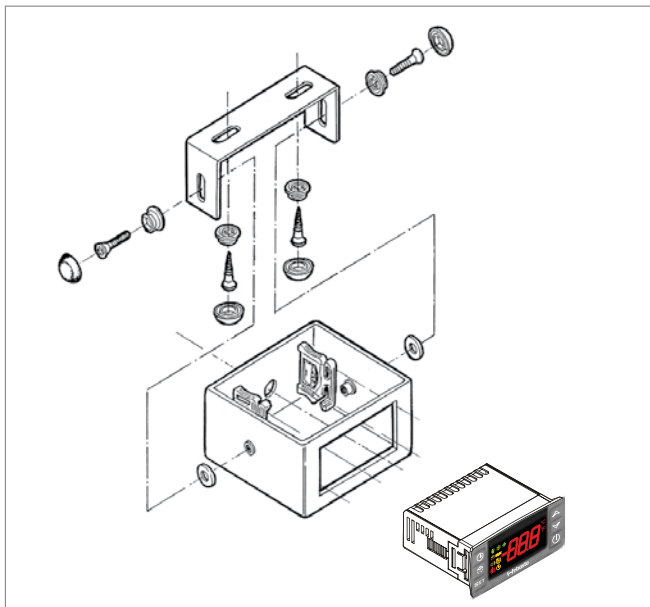

Fig. 47: Housing for control element
► Mount the housing as shown in Fig. 47